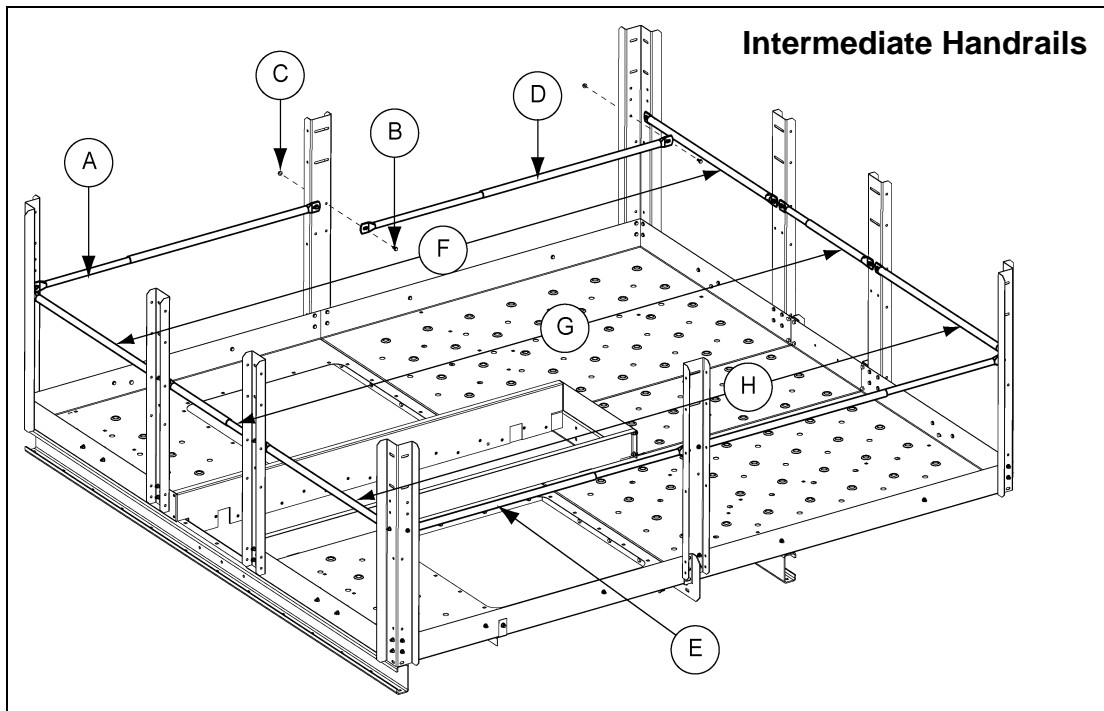

Figure 8R Intermediate Handrails
NOTE: The small intermediate handrail (LDR-4088) fits inside of the large intermediate handrail. It is critical that large and small rails be properly identified in advance. Rails are cut to size and cutting the wrong rail or to the wrong length will prevent proper installation. (See Figure 8R.)
- b. Insert one small rail inside of one large rail and telescope the joined rails from the "W" corner post to the platform post as shown in Figure 8R on Page 65.
- b. Insert one small rail inside of one large rail telescope the joined rails from the "W" corner posts to platform posts as shown in Figure 8R on Page 65.